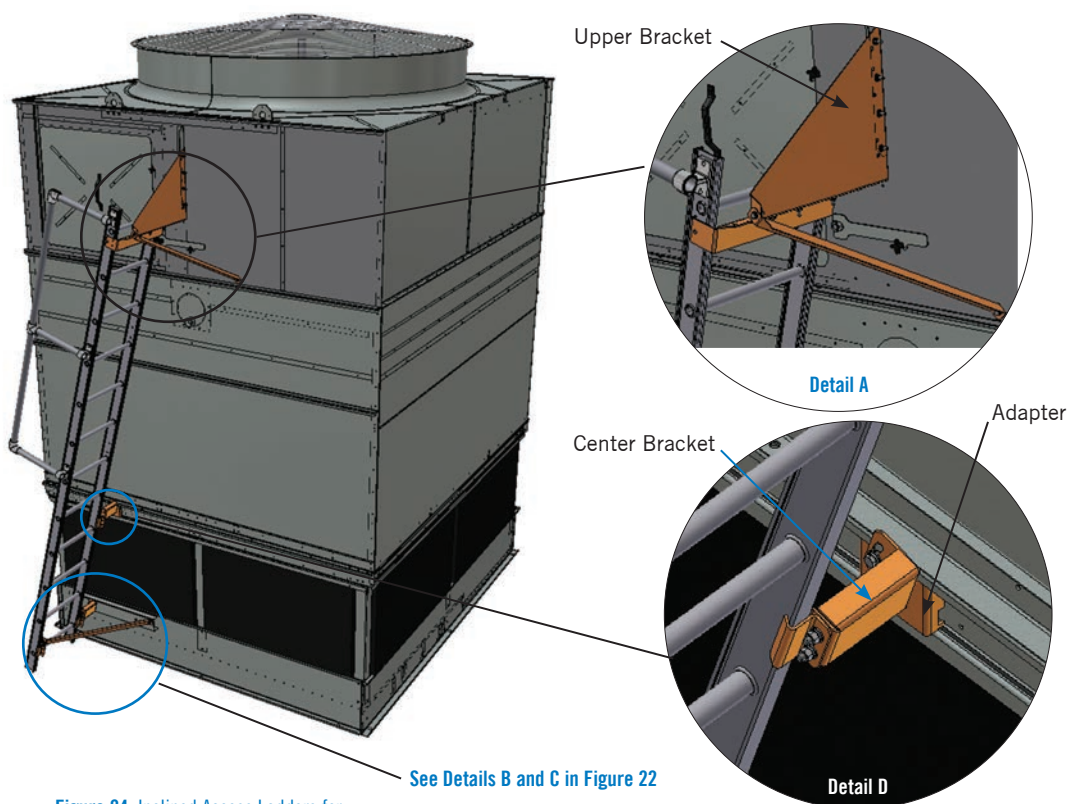

Figure 24. Inclined Access Ladders for PT2-1009, PT2-1012, PT2-1212, and PT2-1218
3. For PT2-1009, PT2-1012, PT2-1212, and PT2-1218 units, install the center adapter and bracket as shown in **Figure 24, Detail D**. To install, fasten the center bracket to the adapter, but do not tighten the fasteners. The bracket flanges should face toward the unit end wall while the adapter is oriented with the holes positioned on top. Capture down break on channel between the bracket and adapter.